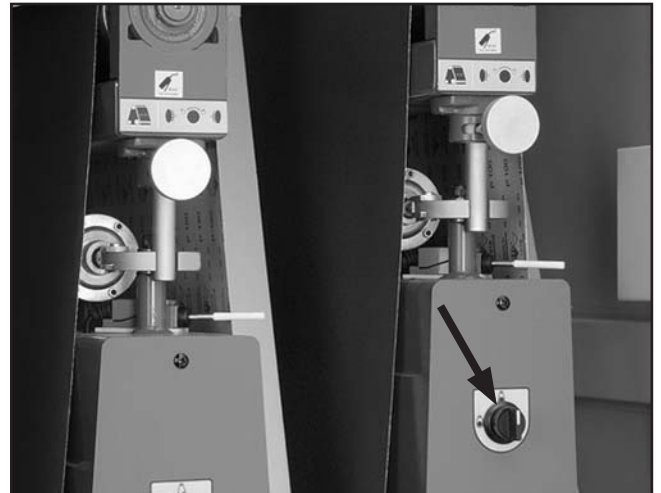

Figure 32. Belt tension knob.
3. With the sanding belt tensioned (**Figure 32**), move the sanding rollers by hand and manually raise the table until you hear the sandpaper just contact the surface of the wood. **DO NOT** continue to raise the table beyond that point.